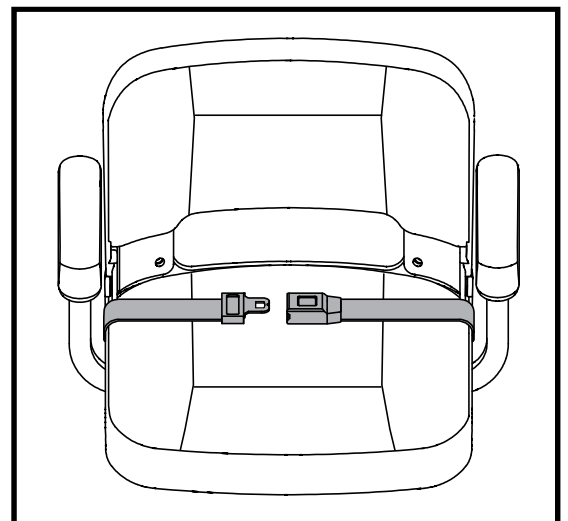

Figure 17. Positioning Belt
Your scooter seat may be equipped with an auto-type positioning belt that can be adjusted for operator comfort. See figure 17. The positioning belt is designed to help support the operator so that he or she does not slide down or forward in the seat. The positioning belt is not designed for use as a restraining device.
1. Insert the tab on the right side of the belt into the plastic housing on the opposite strap until you hear a “click.” See figure 17.